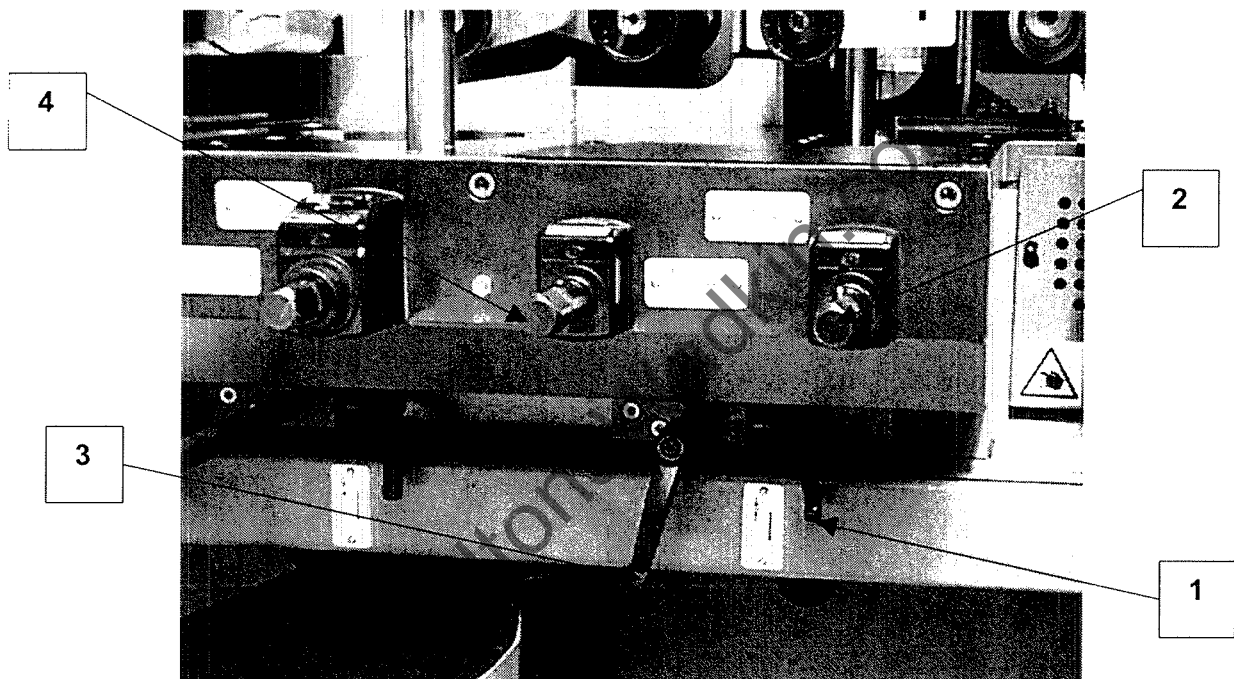

Figure 5.3
5.3 Setting Fence Side Head (Figure 5.3)